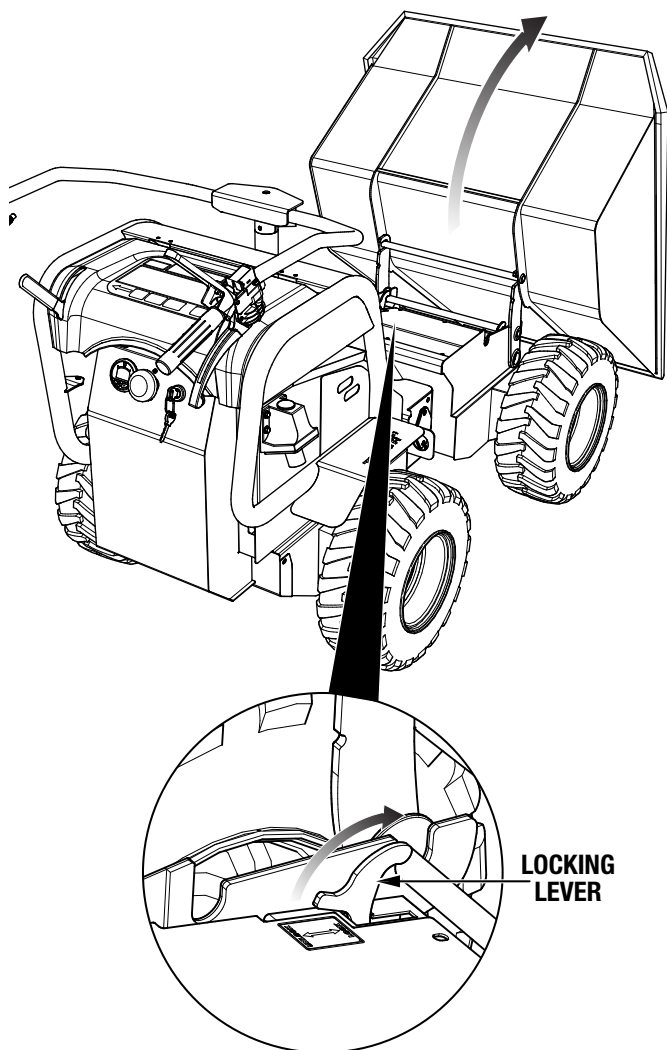

Figure 9. Locking Levers (Lock)
6. Tilt the tub into its discharge position and place both locking levers in the **lock** position (Figure 9).